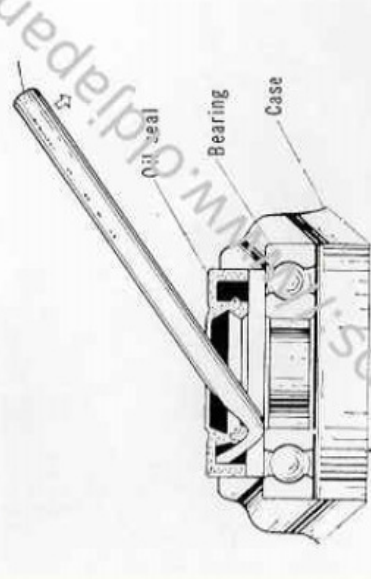

Fig. 8-2-29
30. Never fail to use a **oil seal** remover for removing oil seal from the cases. (Fig. 8-2-29) Be careful not to hold the blade against the oil seal lips in case the oil seal can stand further use, as this will damage the lips which are the most important part of the oil seal.